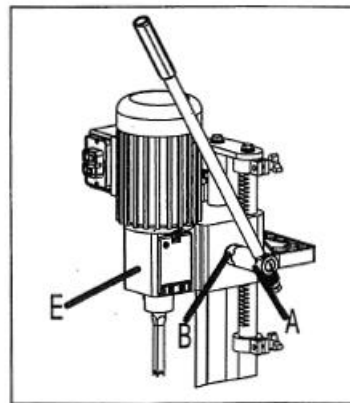

Fig. 3
See Fig. 3. Raise the morticing machine head (E) to the up position by turning handle (A) clockwise. Note: handle (A) is spring-loaded and can be repositioned by pulling out the handle and repositioning it on pinion shaft (B).